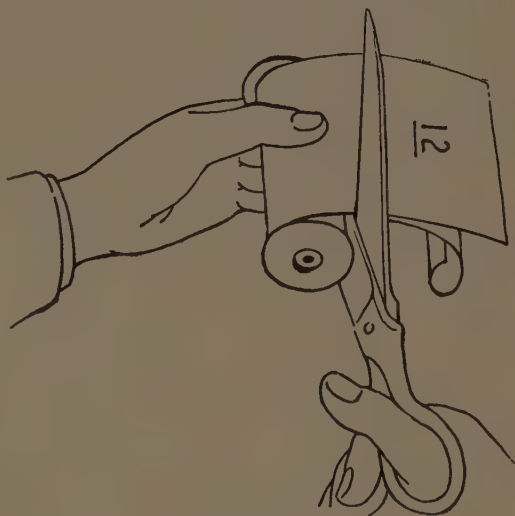

FIG. 1.
1. Unroll the film and cut the exposures apart as shown in Fig. 1.